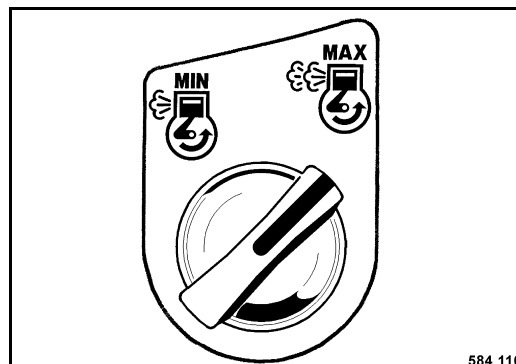

Fig. 56
- Turn the rotary momentary contact switch for engine speed (Fig. 56) clockwise to "MAX".